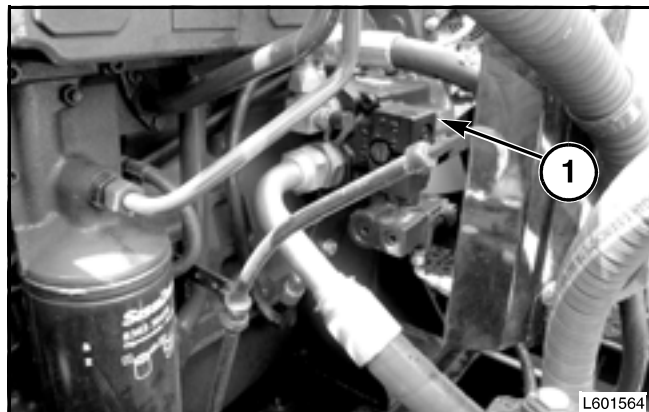

FIG. 3
FIG. 3: The hydraulic pump used on the machine is a pressure compensated, pressure flow compensated, variable displacement axial piston type. The pump is located on the right side of the engine as viewed from the flywheel end. The pump (1) is driven directly off of the back of the auxiliary drive on the engine.